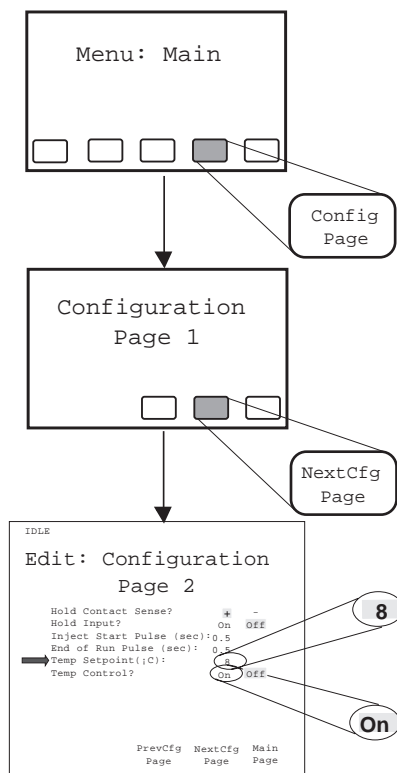

Figure 4-25 Setting Sample Chamber Temperature
2. Set the sample chamber temperature on Configuration Page 2 by pressing the keys indicated in Figure 4-25.